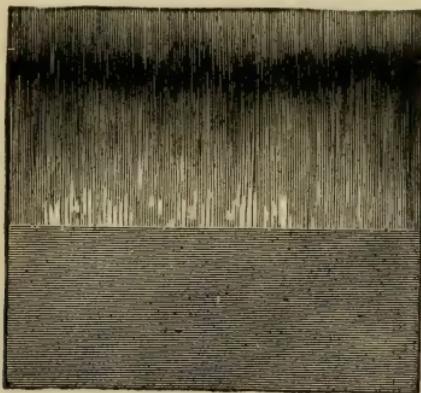

Fig. 32—Gilder's Camel-Hair Tips.
*b.* *Gilders' tips* are made from either badger or camel's hair or a mixture of both as the squirrel is usually too flimsy by itself. See Fig. 32.